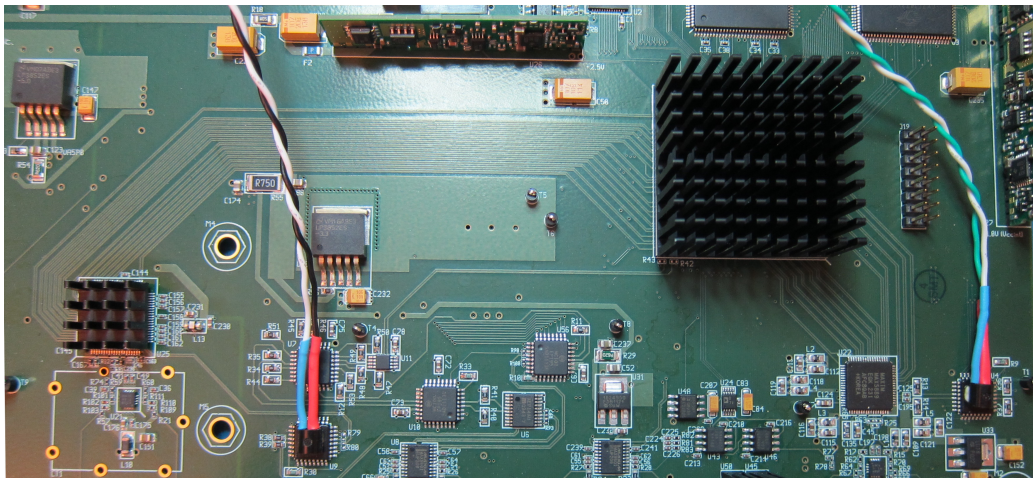

Figure 4: iGp12 PCB with heatsinks and temperature sensors installed.
2. Mount 374724B00032G heatsink using pre-installed thermal tape on U44. Refer to Fig. 4 to determine proper orientation of the heatsink.
4. Following the instructions for Wakefield 156-K heatsink adhesive, mount temperature sensor with the shorter (black/white) cable on U9. Make sure sensor pins are oriented as shown in Fig. 4.
5. Following the instructions for Wakefield 156-K heatsink adhesive, mount temperature sensor with the longer (green/white) cable on U4. Make sure sensor pins are oriented as shown in Fig. 4.